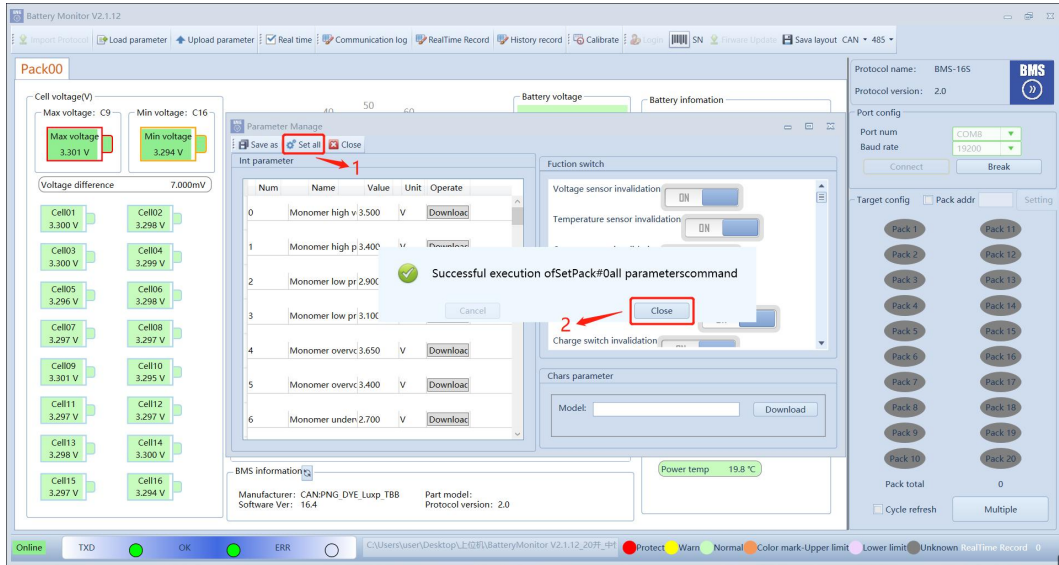

Figure 6-3
- 3) Click "Set All", the prompt box pop up, and then click "Close" to complete the configuration, Figure 6-3